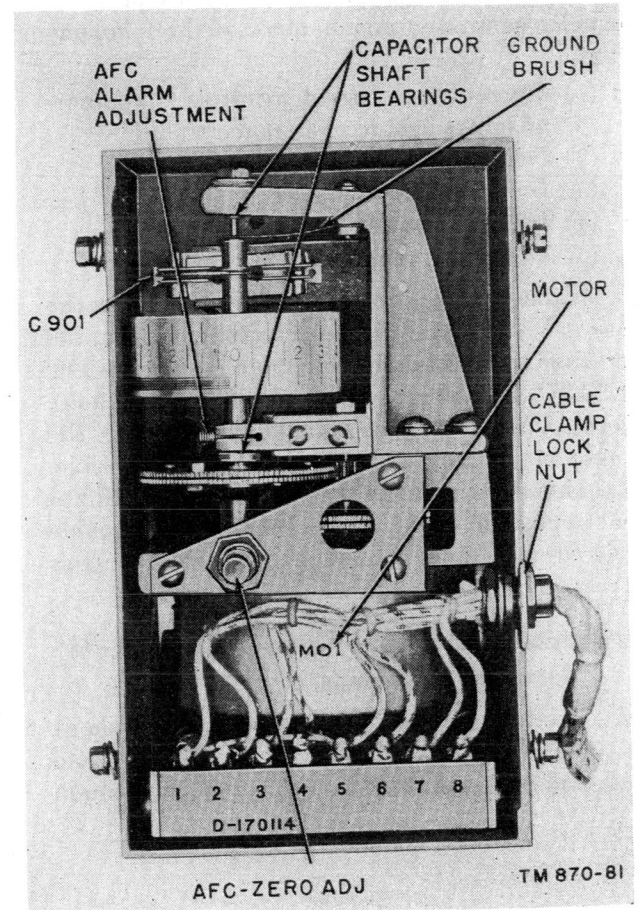

Figure 27. Afc tuning motor assembly and lubrication points.
b. *Routine Lubrication.* If lubrication of the capacitor shafts becomes necessary (failure to meet the afc capability test, par. 35c), sparingly lubricate the upper and lower bearings with oil, type KS-7470 (fig. 27). Be sure that no oil from the upper bearing of the capacitor shaft leaks down to the shoulder on which the ground brush is making contact. If necessary, remove oil with clean carbon tetrachloride.